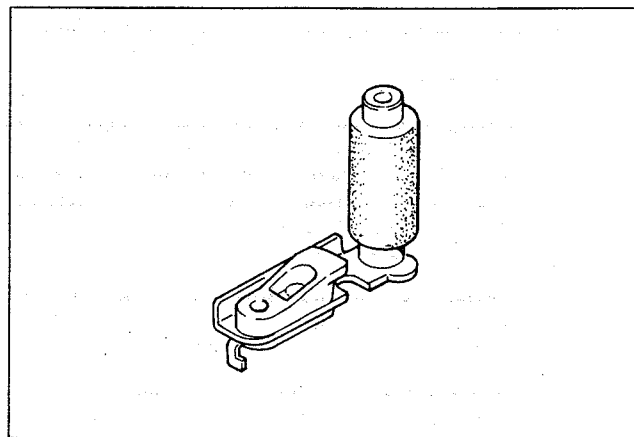

Fig. 6-4. Pinch roller unit
- A replacement Pinch Roller (Fig. 6-4), to be supplied from SONY Repair Parts Center, is precisely adjusted before shipment from factory such as "slanting" etc so that any extra power should never be applied to a replacement Pinch Roller: After replacement of the Pinch Roller, the tape running system works satisfactorily without any adjustment after replacement.